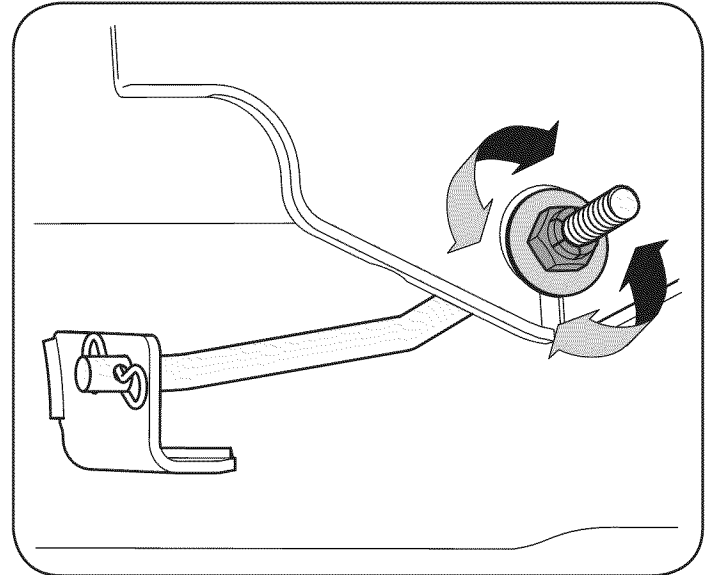

Figure 13
3. Locate the flange lock nut on the front side of the stabilizer bracket. See Figure 13.